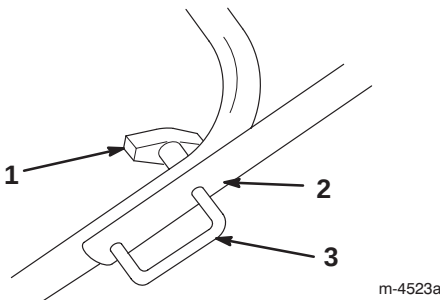

Figure 3
2. Loosen the knobs and pull out the handle locks until the upper handle rotates freely (Fig. 3).
5. Fully insert the handle locks (Fig. 3).
6. Fully insert the handle locks (Fig. 3).